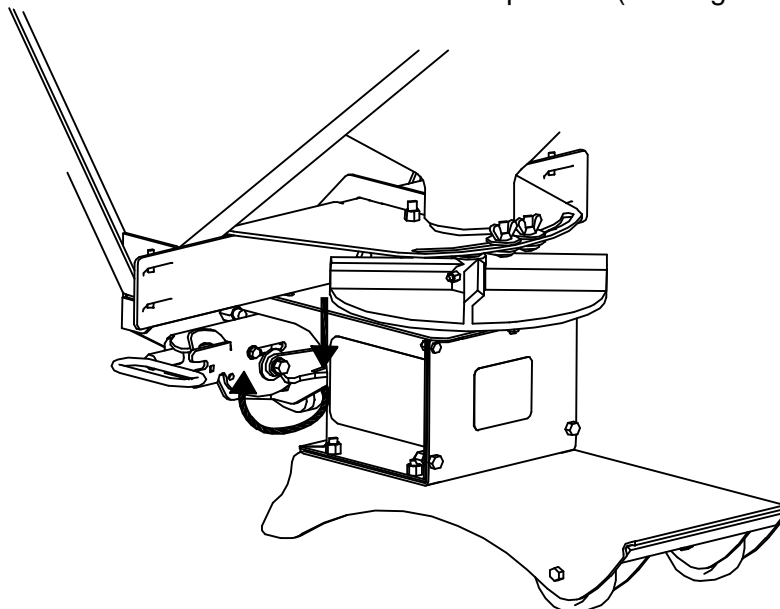

Figure 13. RT3 Attachment Lever Rotation
- 3) Rotate the release lever clockwise to the "OFF" position (See Figure 13).